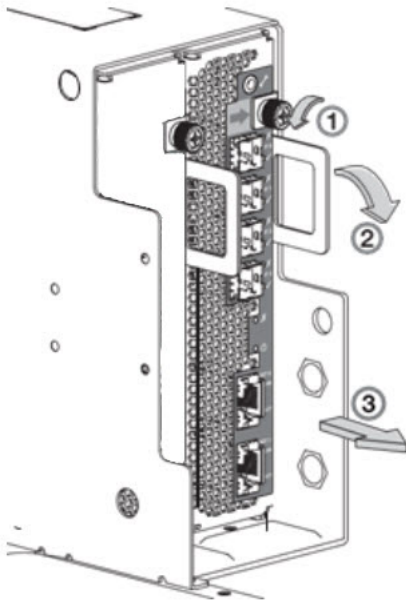
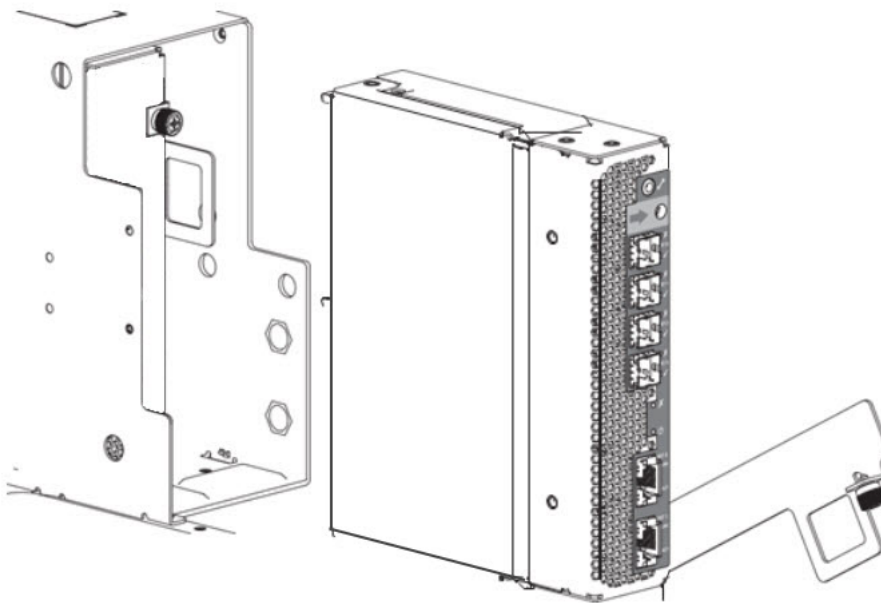

Figure 40. Removing the IOM (1 of 2)
Figure 41. Removing the IOM (2 of 2)
**Note:** When performing the following procedure, refer to Figure 41 on page 68 and Figure 40 on page 68 while ignoring the directional arrow. For installation, the IOM will travel in the opposite direction relative to the arrow shown.